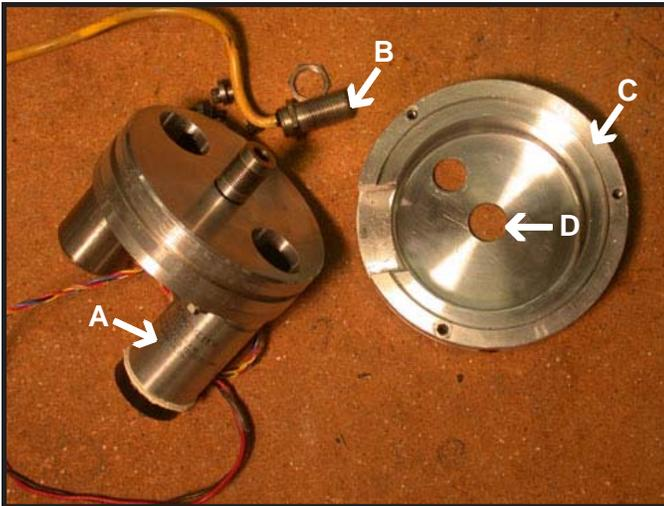

Figure 4.2.7
Reinstall mounting plate (Figure 4.2.7 - C) and slide encoder over the end of the ball screw until it is properly seated. Using a marker, mark the mounting slot (A). **DO NOT USE A CENTER PUNCH TO MARK HOLE WHILE ENCODER IS IN PLACE.** Remove encoder and mounting plate. Center punch, drill (#35) and tap for a 6-32 screw in the center of the area marked earlier. If Z axis motor is being replaced, refer to Chapter 4, HNC/CHNC Common Tasks 4.4.